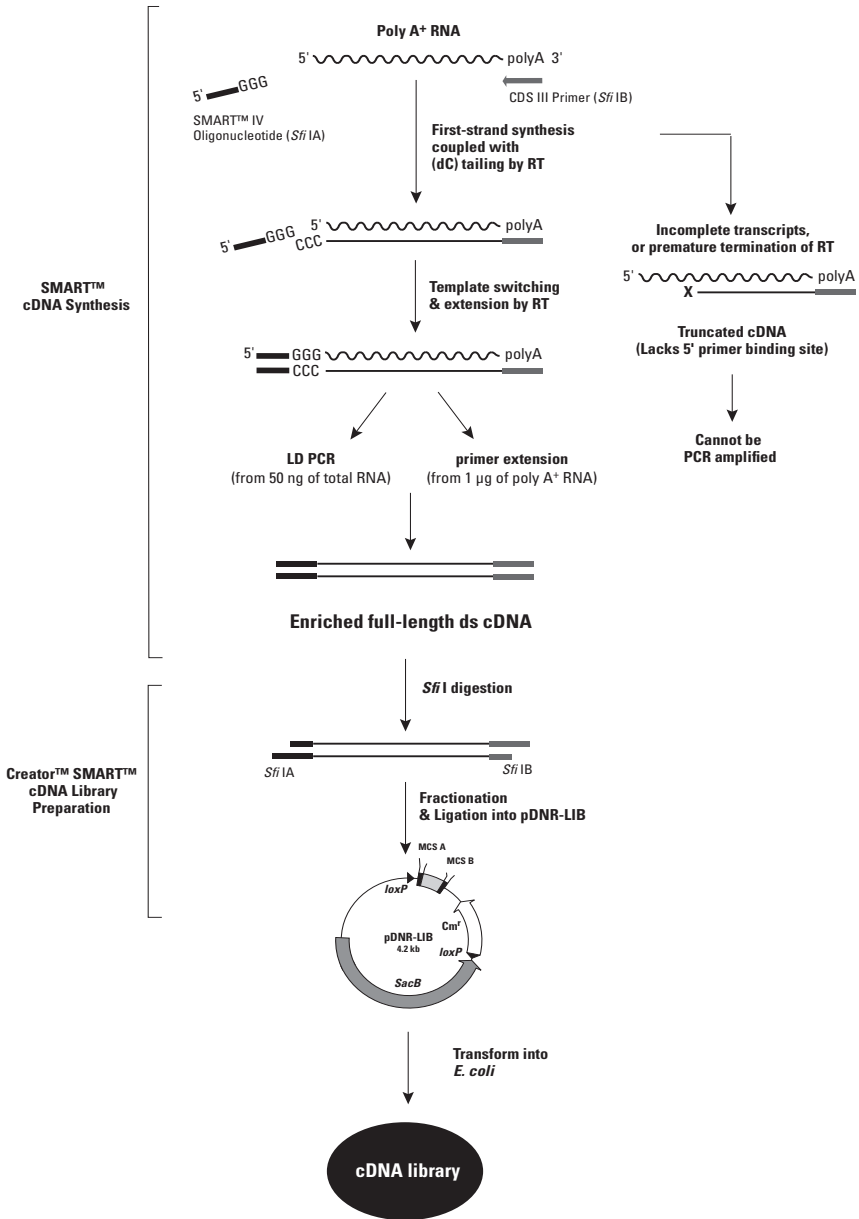

Figure 3. SMART™ cDNA synthesis and library construction.
The SMART protocol is designed to preferentially enrich for full-length cDNAs while eliminating T4 DNA polymerase and adaptor ligation (Figure 3). SMART libraries contain a higher percentage of full-length clones than libraries constructed by conventional methods (October 1998 Clontechniques) or other full-length cDNA synthesis protocols (Okayama & Berg, 1982; Kato et al., 1994). This procedure uses long distance PCR (LD PCR; Barnes, 1994) or primer extension and the unique SMART IV Oligonucleotide, which serves as a short, extended template at the 5' end of the mRNA, together with a modified oligo(dT) that primes the first-strand synthesis reaction to generate high yields of full length double-stranded (ds) cDNA.
When the RT reaches the 5' end of the RNA molecule, the enzyme's terminal transferase activity adds a few additional nucleotides, primarily deoxycytidine, to the 3' end of the cDNA. The SMART IV Oligo, which has an oligo (G) sequence at its 3' end, base-pairs with the deoxycytidine stretch, creating an extended template. RT then switches templates and continues replicating to the end of the oligonucleotide. The resulting full-length ss cDNA contains the complete 5' end of the mRNA, as well as the sequence complementary to the SMART IV Oligo, which then serves as a universal priming site in the subsequent amplification by LD PCR or primer extension (Chenchik et al., 1998). Only those ss cDNAs having the universal priming site at the 5' end can serve as a template. Incomplete cDNAs and cDNA transcribed from polyA⁻ RNA will lack this priming site and will not be amplified. The cDNA is incubated with Sfi I and enriched for full-length clones by size fractionation on a low-melting-point agarose gel. The cDNA is then directionally cloned into the Sfi I A and B sites in pDNA-LIB to create a library (Figure 3). Recombinant plasmids are transfected into the DH10B strain of *E. coli*, which is specially prepared to accept plasmids with large inserts, and are ready to be screened for your target gene.